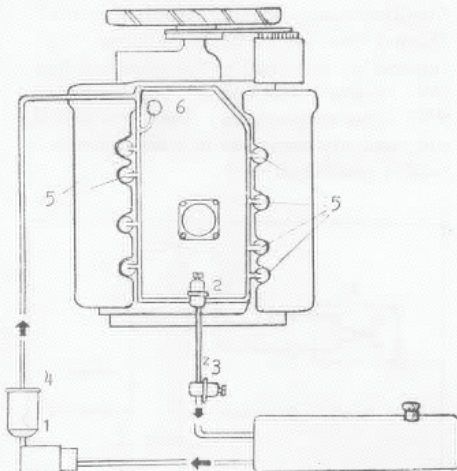

FIG. 1
A. FUEL FLOW CIRCUIT (Fig. 1)-